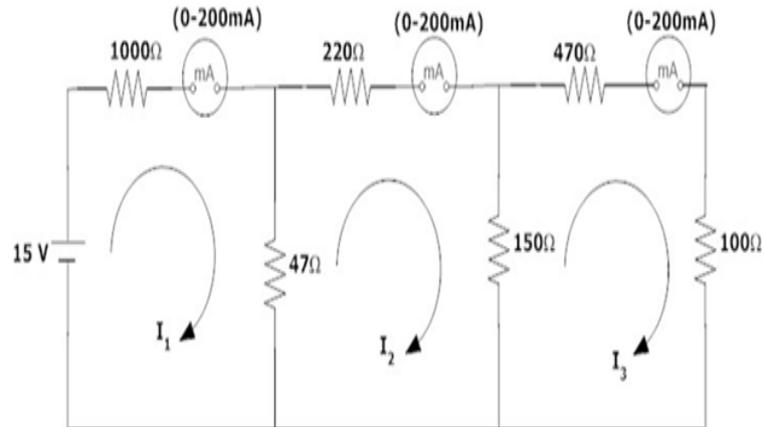

Figure 4.1: Mesh Analysis Circuit
Part (1) Connect the circuit as shown in the circuit diagram of fig. 4.1., Set the value of frequency say 100 Hz in the function generator and Adjust the ground of channel 1 and 2 of Cathode Ray Oscilloscope and then set it into DC mode and Connect CRO across the load in DC mode and observe the waveform and Adjust the DC offset of function generator and Note down the amplitude and frequency.
Part (1) Set up the circuit as shown in Figure 4.1. 6. Set the multimeter into AC mode and measure input voltage and voltage across point AB. This value gives RMS value of sinusoidal AC and Measure the RMS and Average value of DC signal also where instead of function generator you can use DC supply and complete table 5.1. Compare the values obtained from part 1.